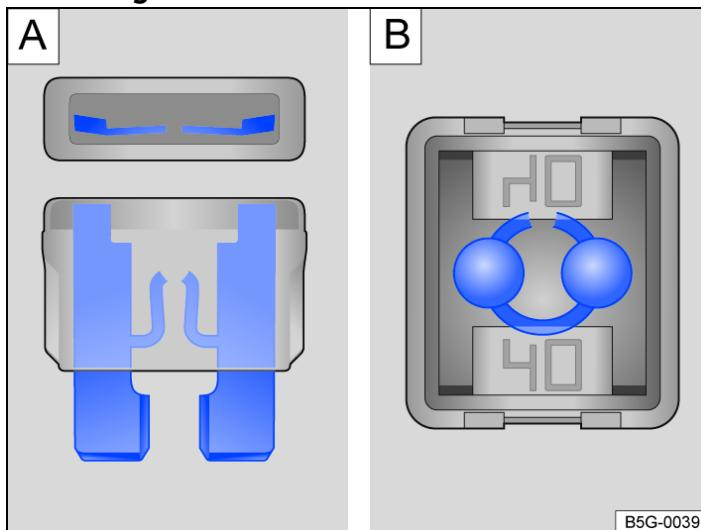

Fig. 1 Blown fuse (illustration).
- If a *flat blade fuse (ATO[®], MINI[®])* has blown, this can be recognised from the top and side through the transparent housing due to the melted metal strip → Fig. 1 A.
- If a *cartridge fuse (JCASE[®])* has blown, this can be recognised from the top through the transparent housing due to the melted metal strip → Fig. 1 B.